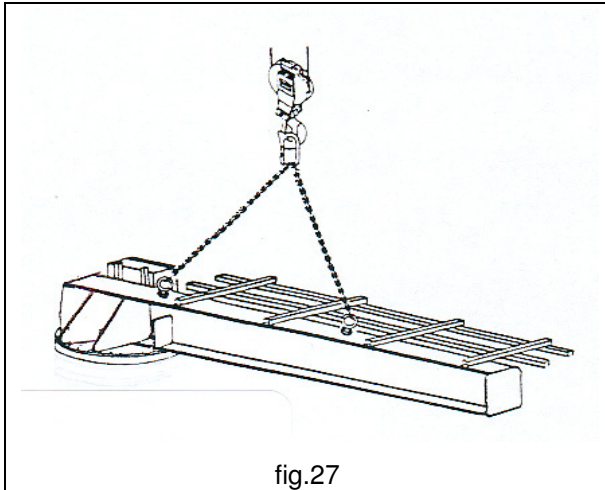

fig.27
2. Sling the arm corresponding to the handling points shown on the (fig.27), and lift it with suitable means (overhead travelling crane, travelling crane, etc).Keep the girder horizontal to the round. Take care to avoid damages to the electric box, the electric equipment (channels, cables, etc) and the rotating geared motor fixed before on the arm.